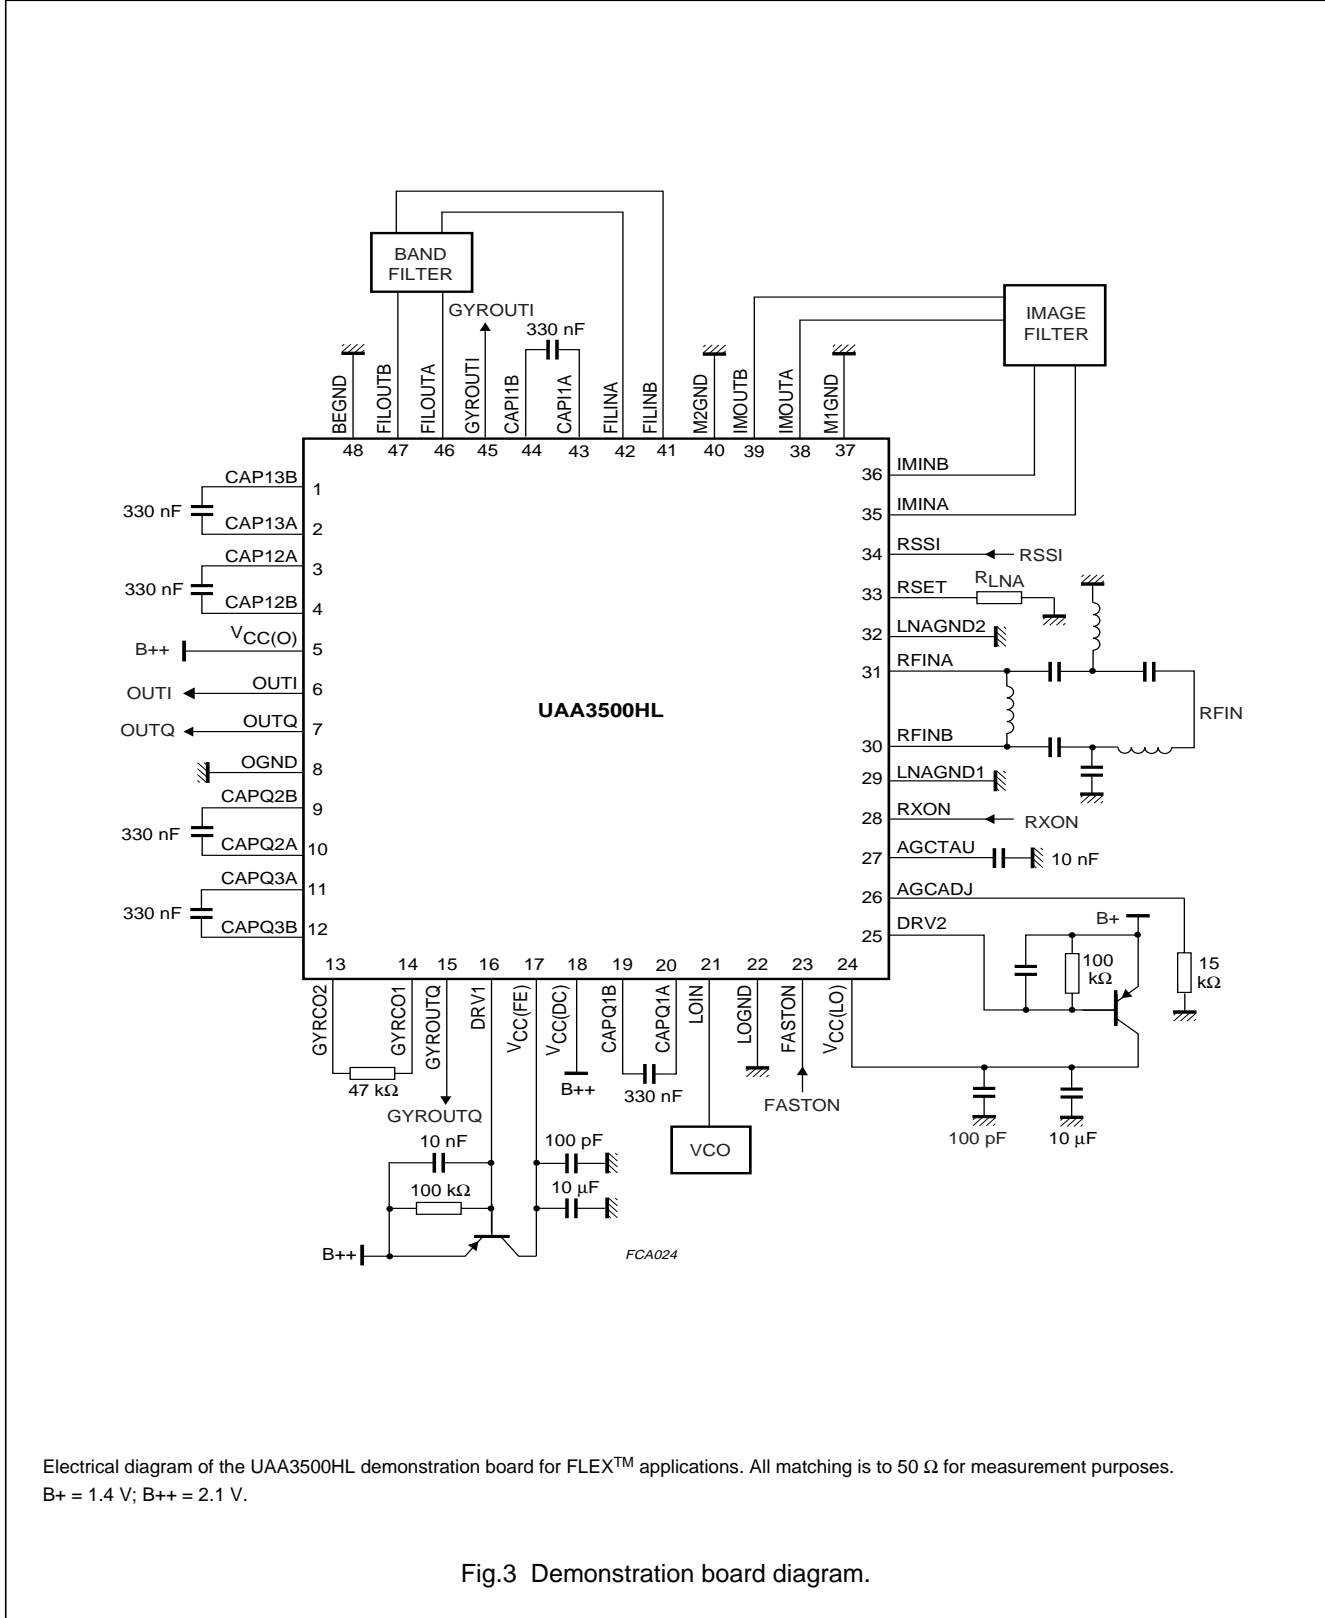

Fig.3 Demonstration board diagram.
1. For B+ and B++, see Fig.3.
$V_{CC} = 2.1\text{ V}$ ;  $T_{amb} = 25\text{ °C}$ ; 930 MHz band application, 3% BER and 1600 bits/s 2 level; on evaluation board according to Fig.3; system measurement done using PCD5009, PCD5010 baseband; unless otherwise specified.